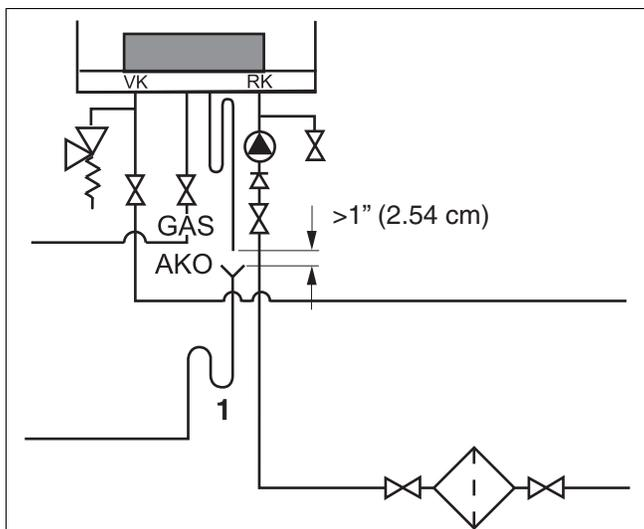
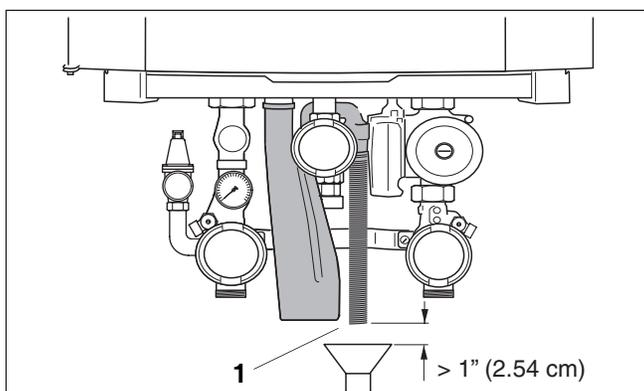

Fig. 16 Connecting the condensate trap
Fig. 17 Condensate drainage pipe
- An air gap of at least 1" (2.54 cm) must be maintained between the boiler condensate trap hose and the condensate pipework, see fig. 16 and fig. 17.